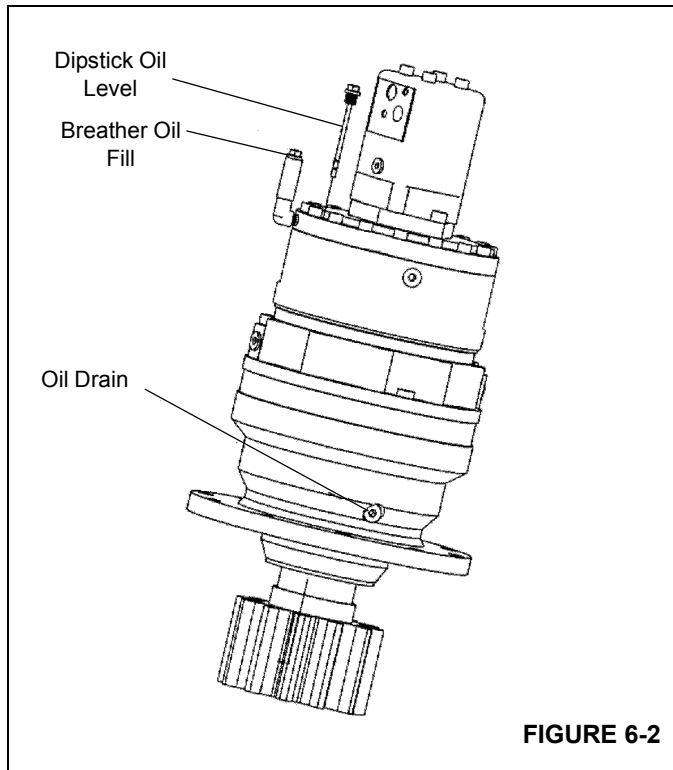

FIGURE 6-2
4. To refill with oil (see Figure 6-2), make sure the breather is open. Insert oil through breather, fill until it reaches proper location on dipstick.